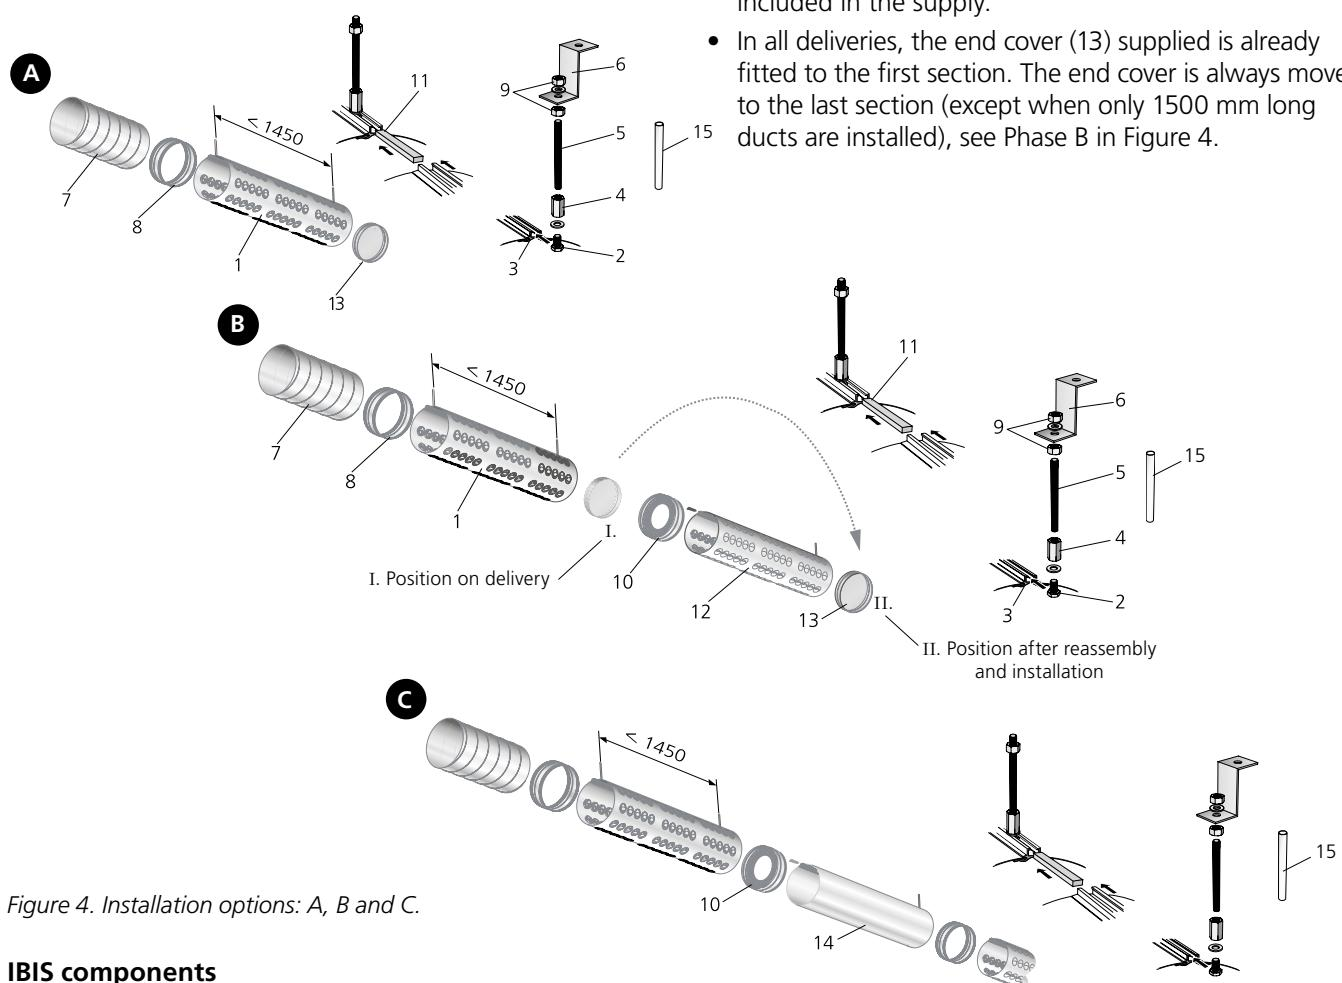

Figure 4. Installation options: A, B and C.
- Install the inactive IBIS D duct sections (14) in the same way as the duct air diffuser sections with discs. Note the use of supplied joints (8) and distribution joints (10) included in the supply.
- In all deliveries, the end cover (13) supplied is already fitted to the first section. The end cover is always moved to the last section (except when only 1500 mm long ducts are installed), see Phase B in Figure 4.